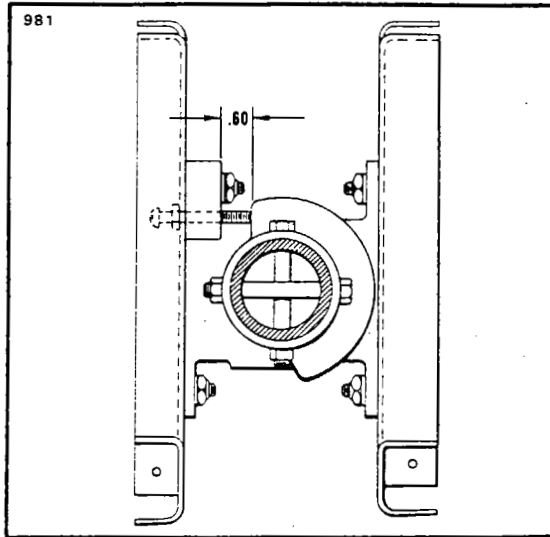

Figure 5-16. Flap Step Adjustment
- c. To adjust the flap up stop and step lock, loosen the jam nut of the right torque tube stop screw, located in the floor opening along the outer end of the flap torque tube, and turn the stop screw to obtain approximately .60 of an inch between the stop fitting and the bearing block as measured along the top side of the screw. (Refer to Figure 5-16.) It may be necessary to loosen the adjustment screw of the left stop.